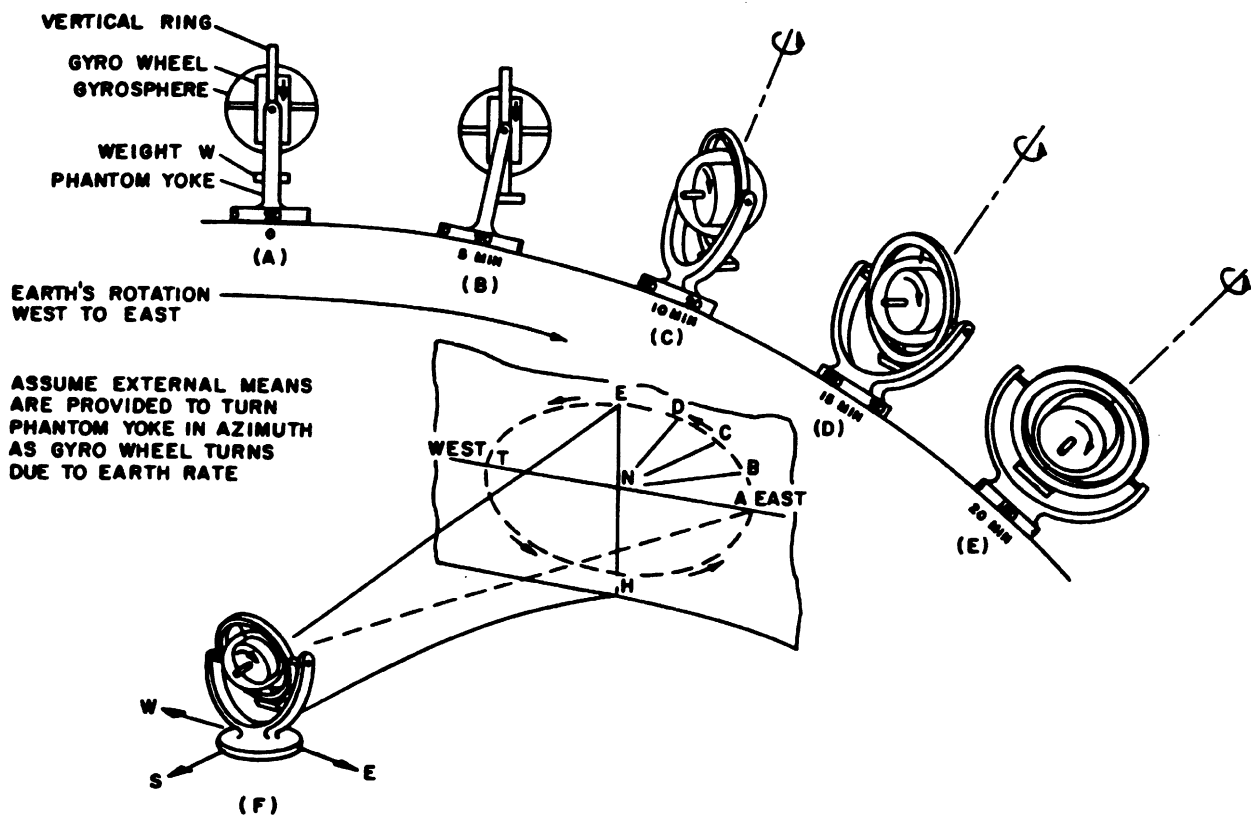

Figure A-11. Effect of Weight and Earth's Rotation on Gyroscope
With the gyro wheel at the Equator, the axle horizontal pointing east-west, and the gyro wheel spinning clockwise viewed from the west (point A in Figure A-11) the gyro wheel and Vertical Ring are vertical and no torque is created by the added weight. At this point both properties of the gyroscope, gyroscopic inertia and precession, are brought into play. As the Earth rotates, the axle and therefore the Vertical Ring become inclined to the horizontal as shown at B in Figure A-11. The weight W is raised against the pull of gravity and consequently causes a torque about the horizontal axis of the gyro wheel. This torque causes precession about the vertical axis in the direction indicated at C in Figure A-11; the gyro wheel then has moved out of its original east-west position.
As the Earth continues to rotate, the north end of the axle starts to dip. The weight W is raised on the opposite side of the horizontal axis in the opposite direction to what it was originally. Precession takes place in the opposite direction carrying the gyro wheel axle back across the meridian to its original position. At this point, the cycle is repeated and will go on indefinitely unless something is done to stop the oscillations. The oscillation about the meridian may be clearly understood by referring to F in Figure A-11 which shows the movement of the gyro wheel axle projected on a vertical plane. The ellipse in the figure is the result of a displacement of the gyro wheel axle only a few degrees from the meridian. If the axle were pointing east-west at the beginning of the cycle as shown in (A), precession would take place through 180 degrees in each direction, and at one extreme the axle would point east; at the other, west. In any case, the gyro wheel never comes to rest because there is no force tending to restore the axle to the horizontal position until it has passed the meridian.